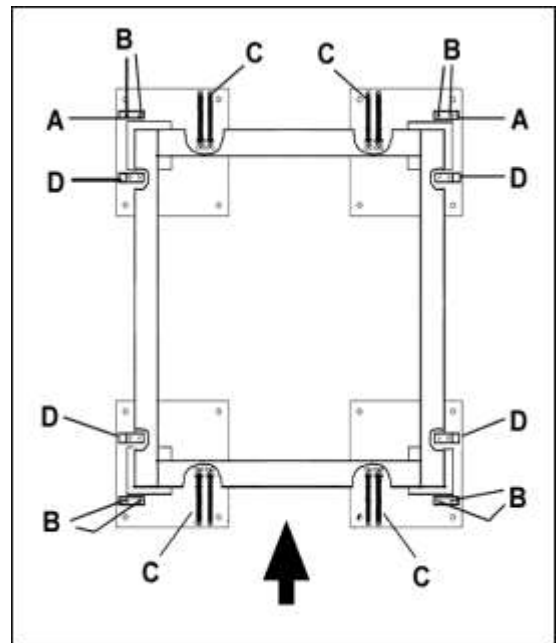

Fig. 4.10
**5.7. Assembling Tilt system guards**(Figure 4.10)